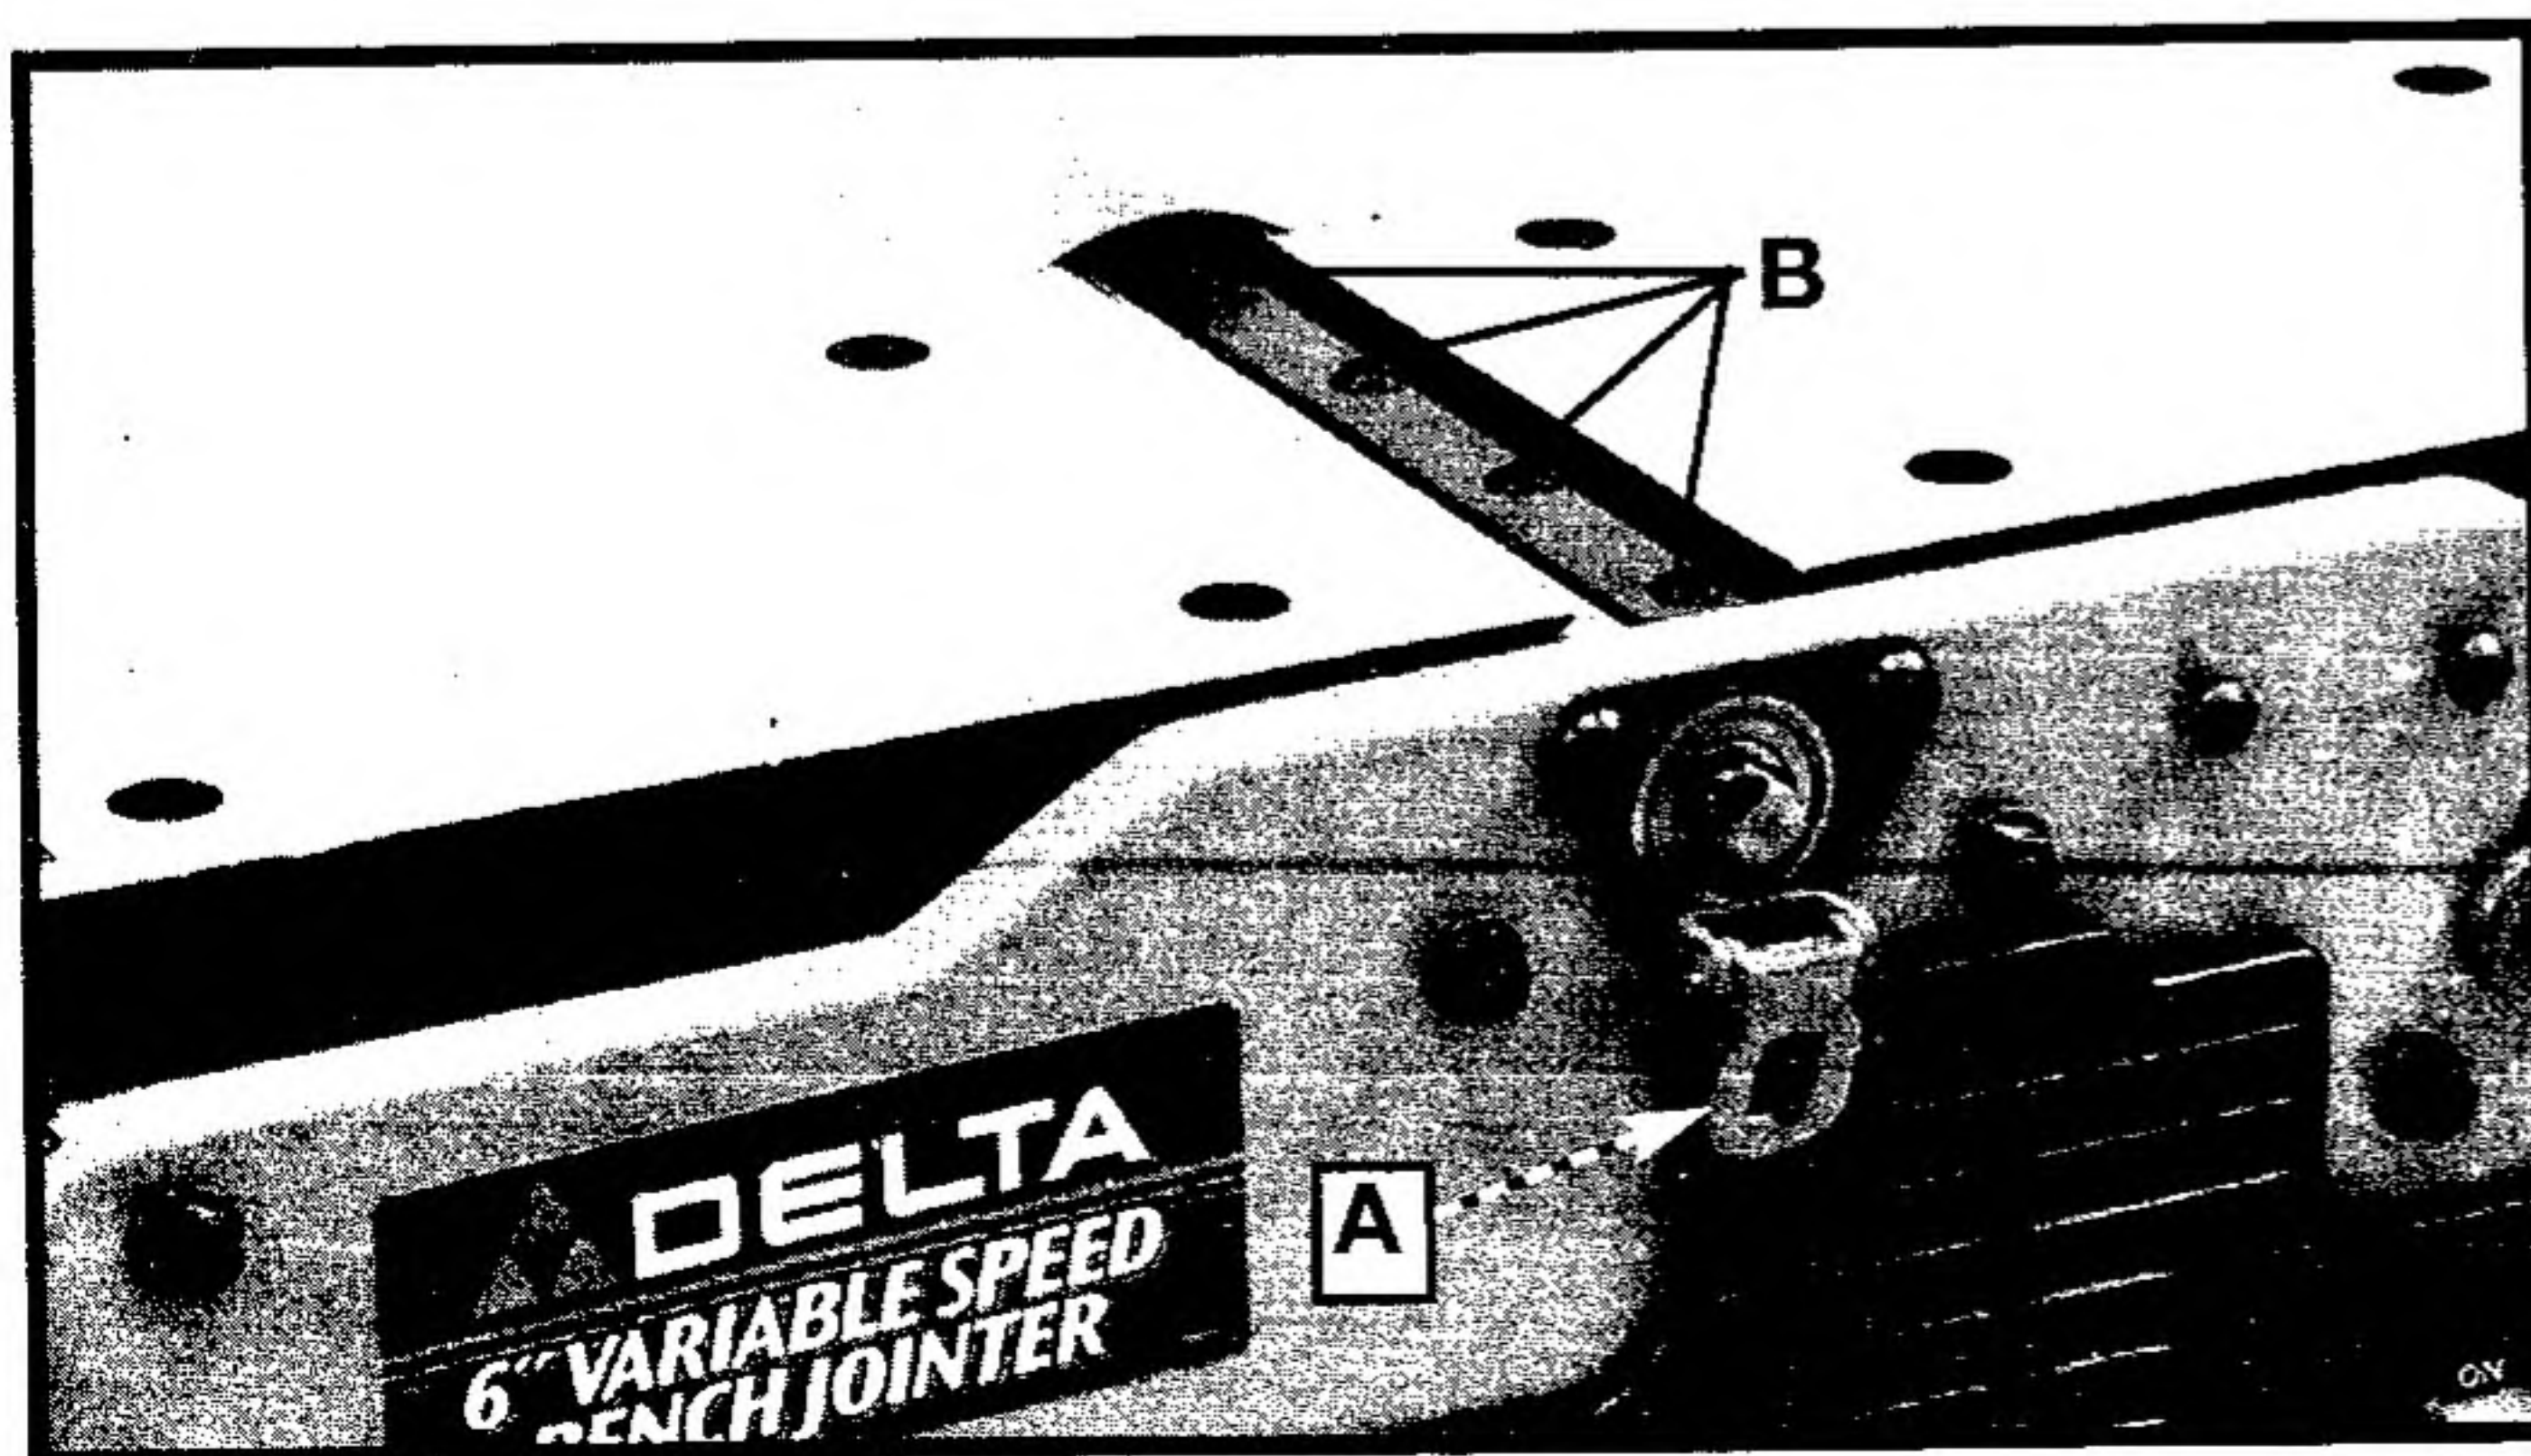
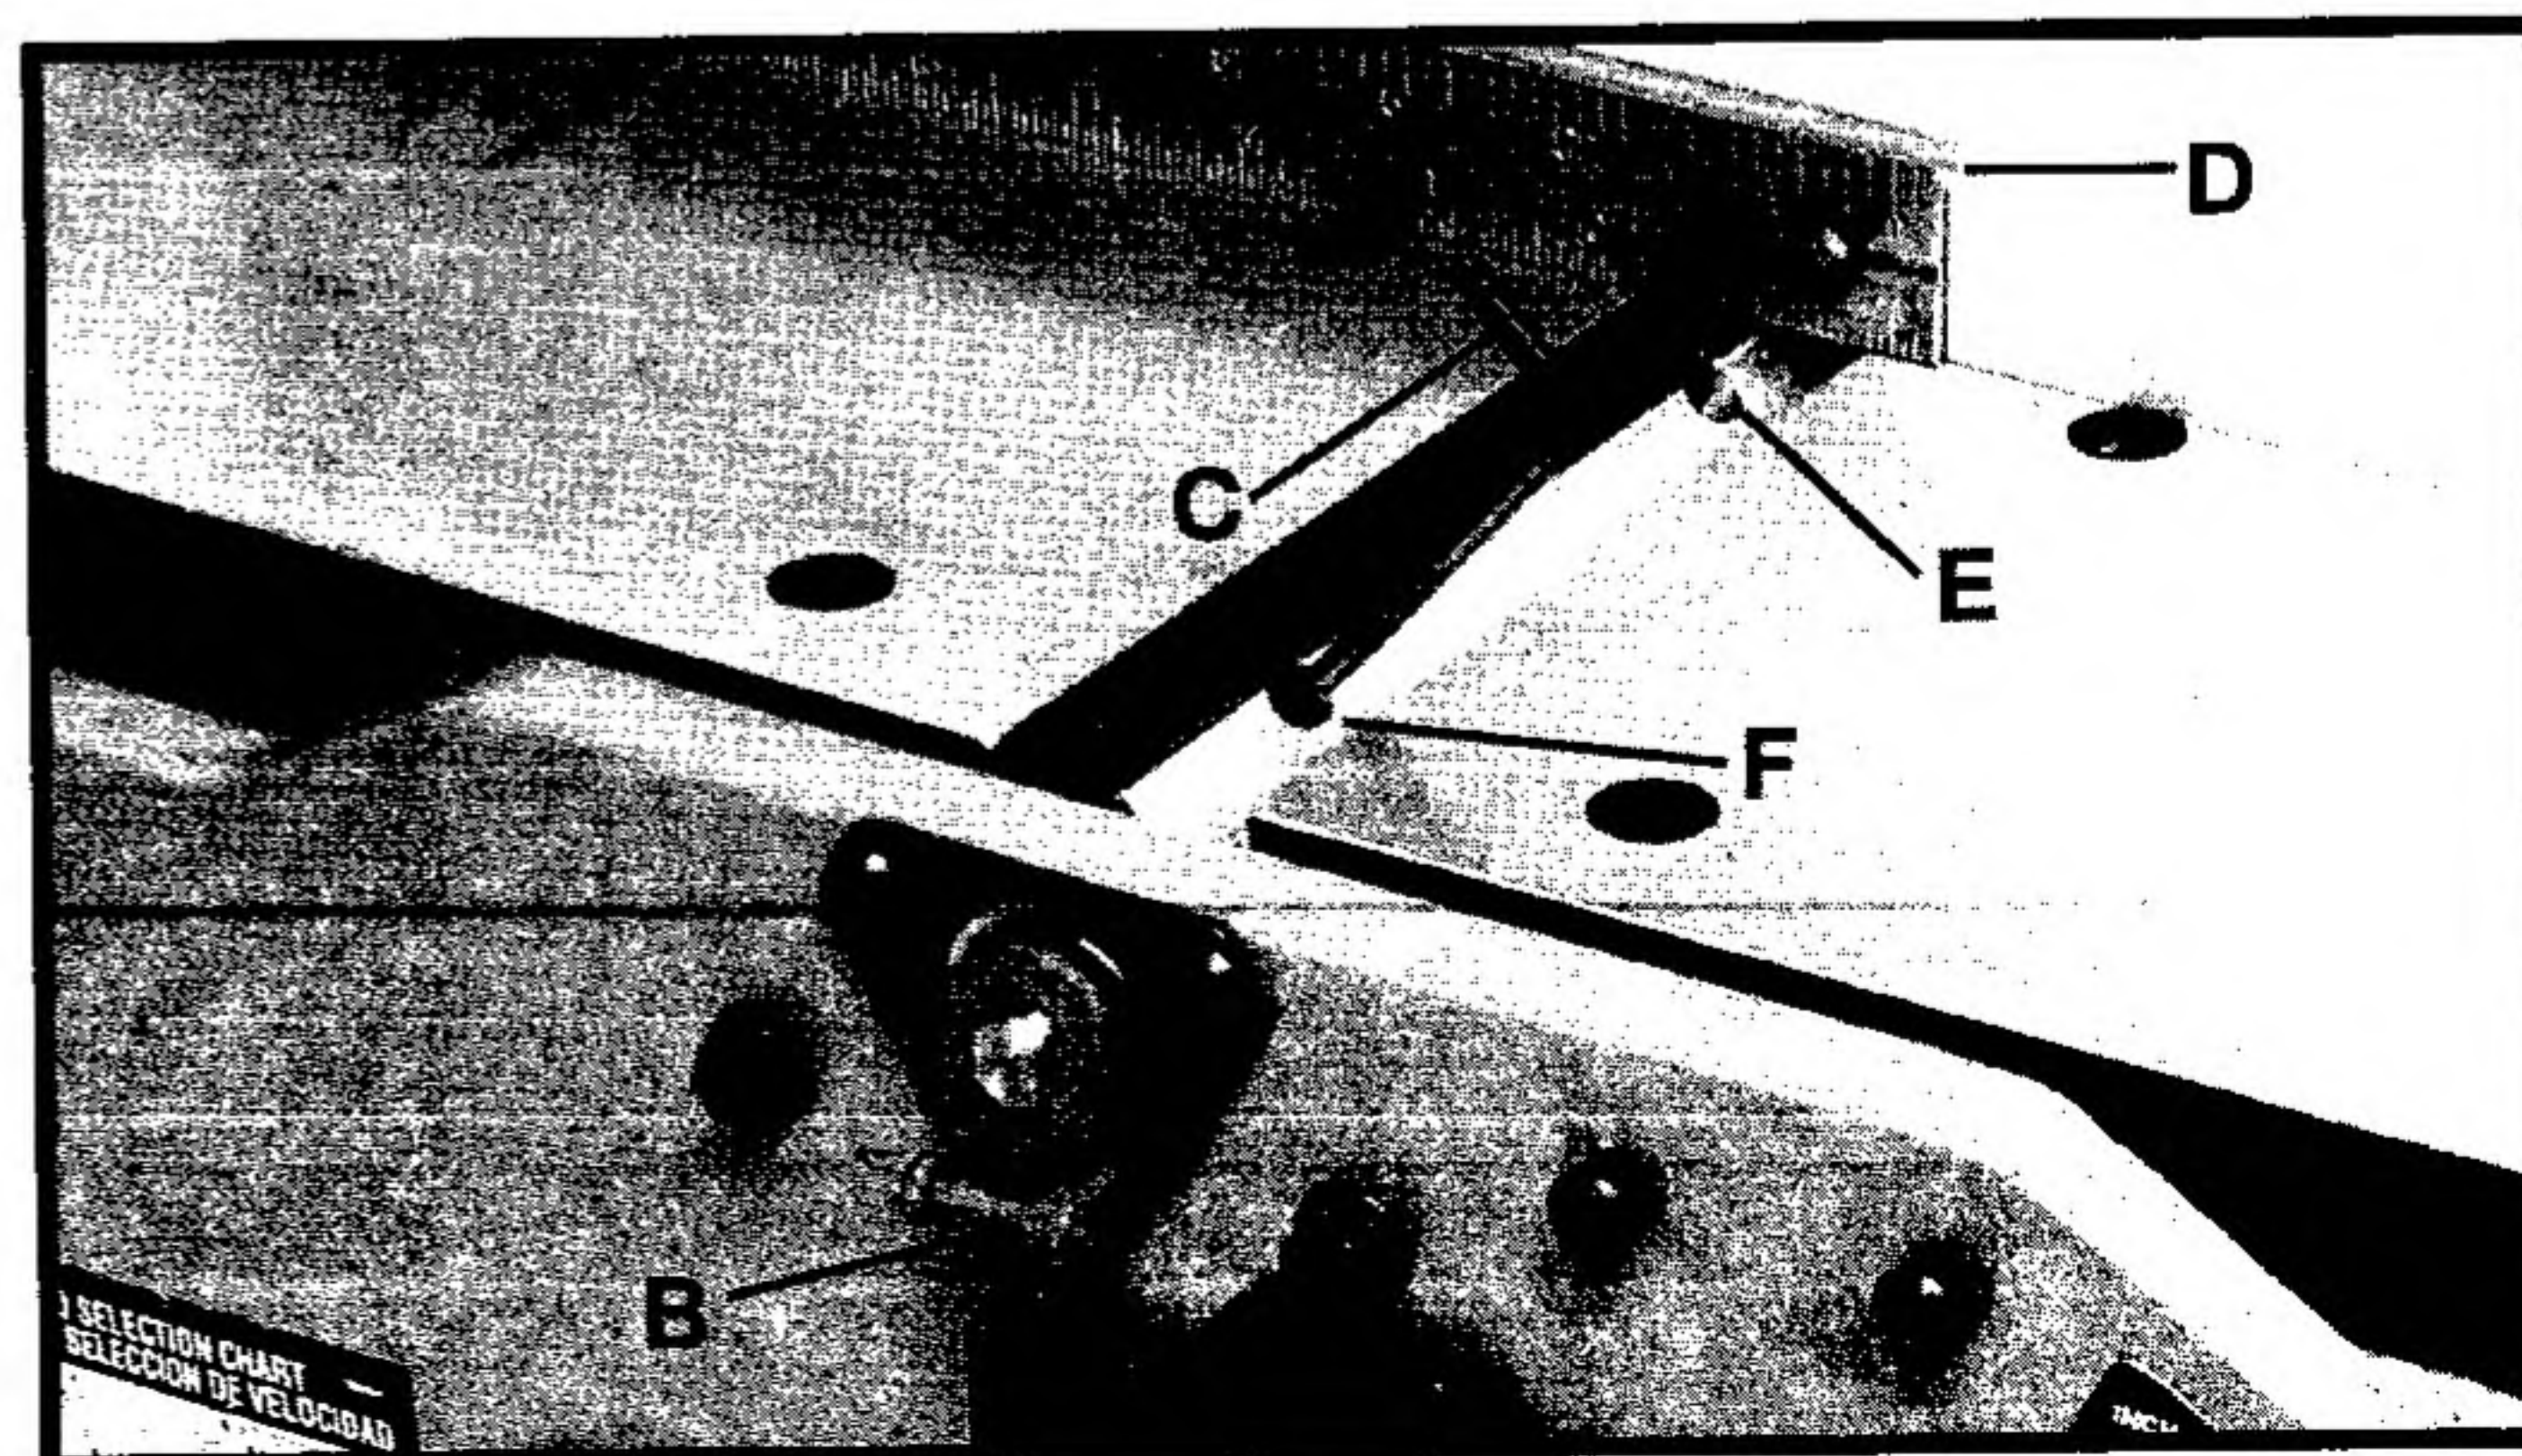

Fig. 30
Fig. 31
2. Make sure the cutterhead lock (A) Fig. 30 is not engaged, rotate cutterhead and loosen four screws (B) Fig. 30.
**NOTE:** Do not overly loosen the screws (A). Loosen one half turn or only enough so knife can slide between locking plate and cutterhead.
3. Rotate cutterhead and engage cutterhead lock (B) Fig. 31, on cutterhead shaft as shown. This will position knives for proper adjustment to the outfeed table.
4. Place a straight edge (D) Fig. 31, on the outfeed table extending out over the knife as shown. Using wrench (C) supplied, turn screw (E) until knife just touches straight edge. Adjust knife at near end of cutterhead in the same manner turning screw (F). Tighten four screws (A) Fig. 30, after adjustment is made.
**NOTE:** Make sure cutterhead lock (B) is disengaged after adjustment is completed and replace cutterhead guard.